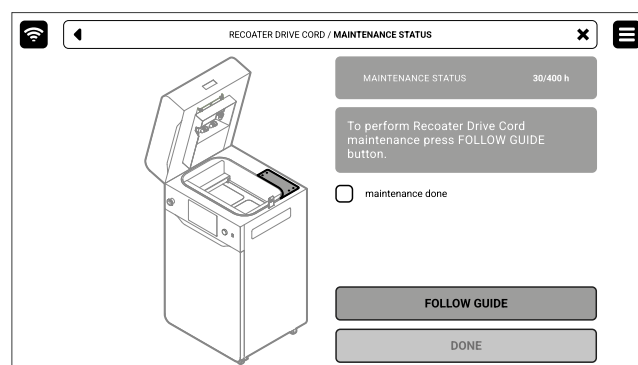

Fig. 13.56 The screen of the maintenance of the Recoater drive unit cord.
3. In this case, mark **MAINTENANCE DONE** once you have completed the procedure, and then the **DONE** button. The timer will reset to zero (fig. 13.56).